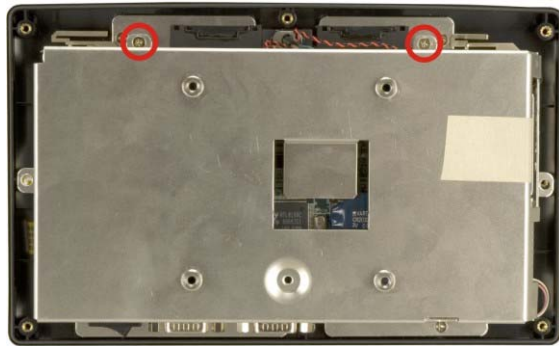

Figure 4-1: AFL-07A-LX Aluminum Back Cover Retention Screws
Step 1: Remove the two retention screws securing the internal aluminum cover (**Figure 4-1**).